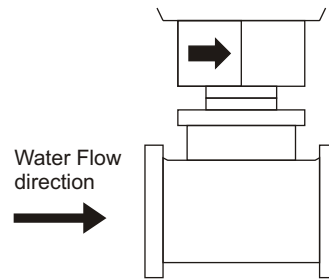

Fig.2
- Care must be taken to properly orient the device for the direction of flow.(fig.2)